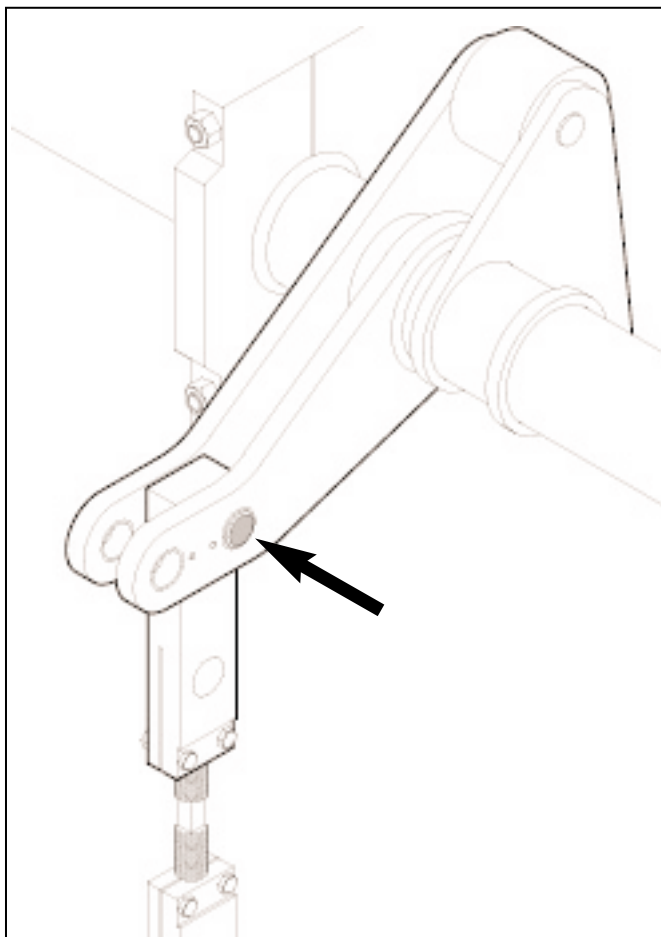

Figure 4.53 ADJUSTING STRIPPER HEAD ARMS
4.4.14 Position the pins in the inner holes of the stripper head shaft arms (see figure 4.53).